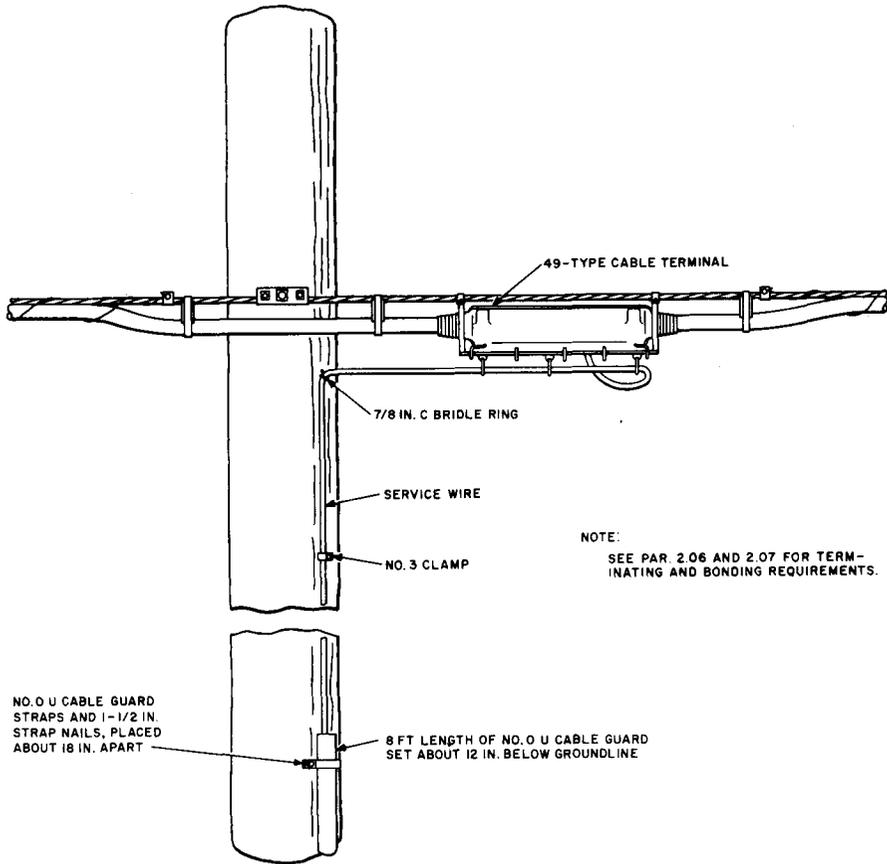

Fig. 2—Buried Plant Run up a Pole
- 2.03 Buried service wire can be brought up a pole and terminated directly in a pole- or strand-mounted cable terminal or cable closure if the cable conductor is 24- or 26-gauge. Where fuseless protectors are used at the station and the cable conductor is 22- or 19-gauge and exposed to power contact, a fusible link is required between the cable pair and the service wire. As stated in 1.05, the 24-gauge conductors in a cable stub or the connecting block of a 49-type cable terminal are satisfactory fusible links. At the groundline the wire should be protected with an 8-foot length of No. 0 U cable guard. A typical installation terminating in a 49-type cable terminal is shown in Fig. 2.